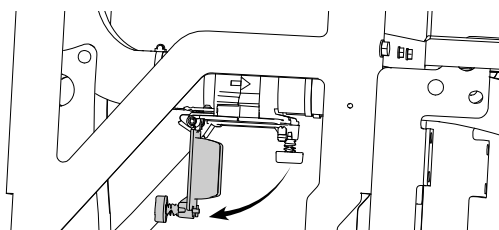

Figure 7.3
3. Open the latch by pushing and turning the grey knob, see "Figure 7.3"